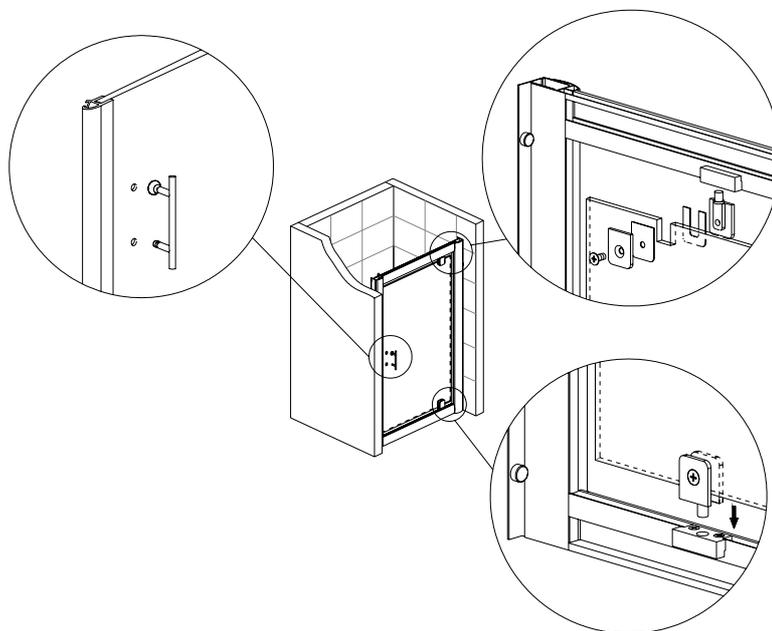

Figure 6
5. Install the handle (12) on the pivot door (11) as shown in figure 6 left.
6. Erect the pivot door (11) carefully, insert the lower pivot part (15) into the bottom rail profile (1). Hold the door vertically, insert the pivot part (15) into the frame then assemble the rest of the pivot as shown in figure 6.
7. Loosen the screws in the top and bottom pivot hinges (15), align the door to ensure a smooth opening, with a watertight seal when closed. Once this has been achieved, tighten the screws.